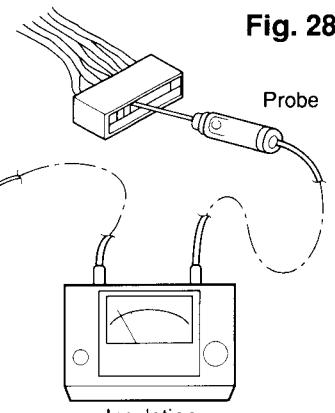

Fig. 28
Clamp an aluminum plate fin or copper tube with the lead clip of the insulation resistance tester and measure the resistance by placing a probe on ①, and then ②, and then ③ on the 6P terminal plate (Fig. 28)
Measure the resistance on ⑤ and then ⑥, and then ⑦ on the 8P terminal plate in the same manner as explained above (2). (Fig. 28)